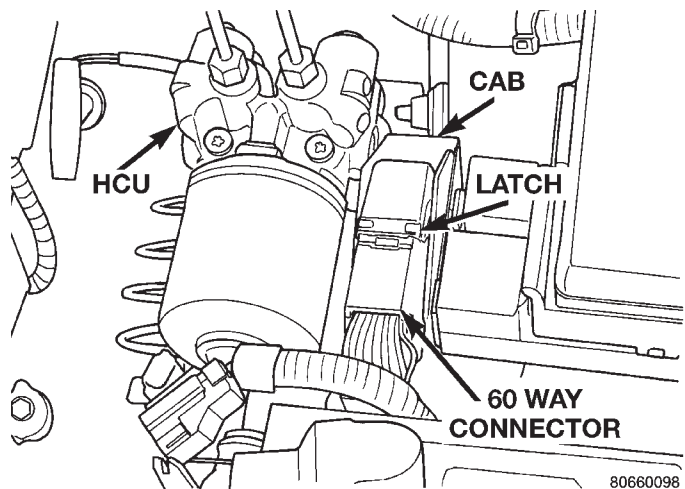
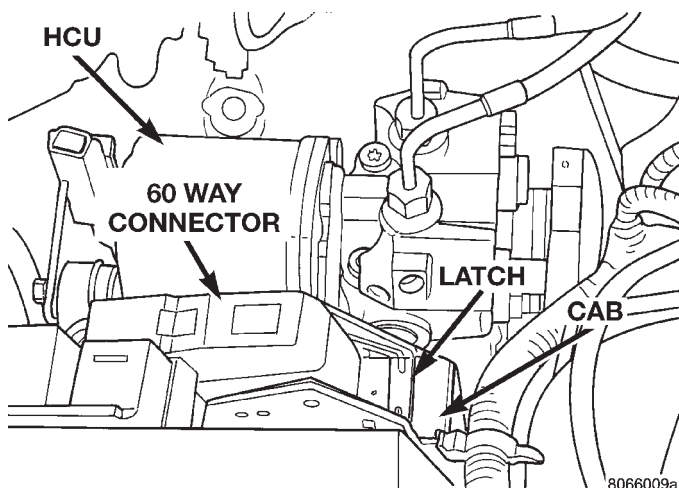

Fig. 21 CAB Connector Locking Latch
Fig. 22 Unlatched 60 Way Connector
- (4) Disconnect the 60 way connector from the CAB using the following procedure. Lift 60 way connector latch (Fig. 21) away from the 60 way connector, rotating the connector latch all the way back against CAB (Fig. 22). This will lift the CAB connector away from CAB terminals.